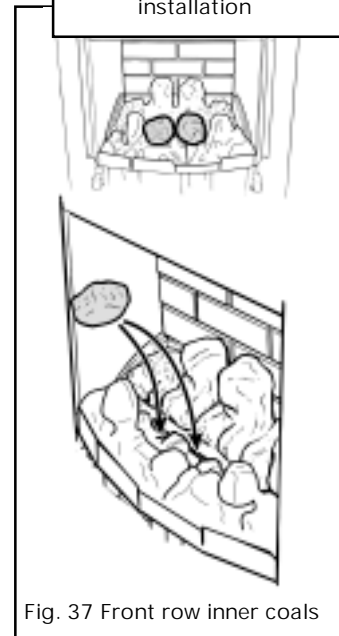

Fig. 37 Front row inner coals
**10.5.1** Select the two largest coals. Place them in the central two valleys of the front coal (See figure 37).